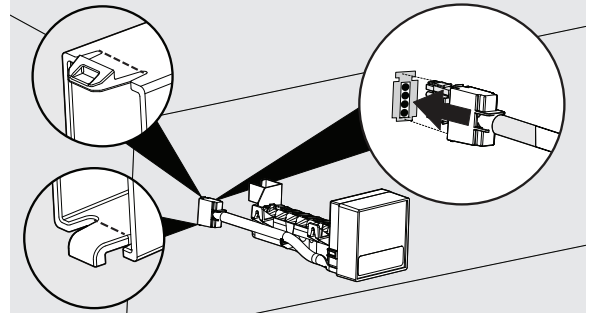

Figure 9
13. Connect the wiring harness into the connector mounted on the back freezer panel, just to the left of where the water inlet tube comes through. The harness connector is keyed so it will only fit one way. Next, slide the Ice Maker connector cover over the connector (see Figure 9--snap on top, hook on bottom). The Ice maker connector cover can then be snapped into place into the back panel or slid up tight to the back panel depending on which version of back panel you have (see note below). Then, mount the Ice Maker to the 2 mounting screws you inserted earlier from Step 12. (See figure 10.) Tighten the screws. Make sure the water inlet tube is sitting inside the fill cup.